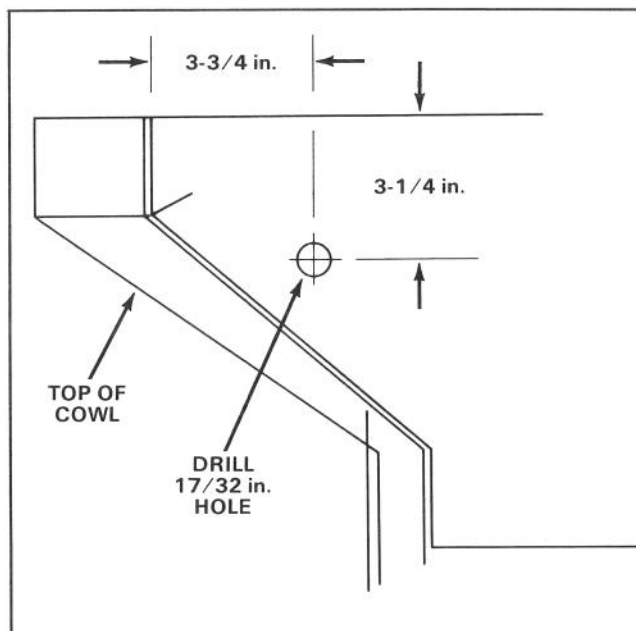

Figure 7
2. From the outer edge of the cowl, scribe a line 3-3/4 in. in on top of the cowl (Fig. 7).
3. From the top front edge of the cowl, center punch 3-1/4 in. back on the 3-3/4 in. line and drill a 17/32 in. hole (Fig. 7).
4. Repeat steps 2-3 on the opposite side of the cowl (Fig. 7).